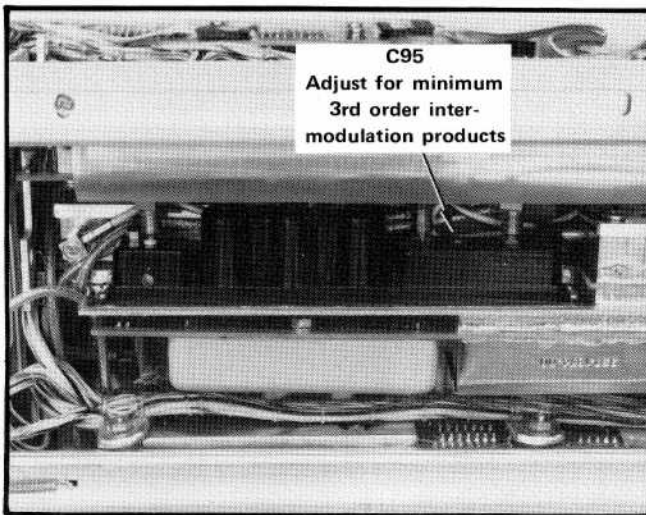

Fig. 4-20. Location of C95 in 3rd Mixer Assembly.
d. Adjust IM Adj C95 (Fig. 4-20) to minimize the amplitude of the sidebands.